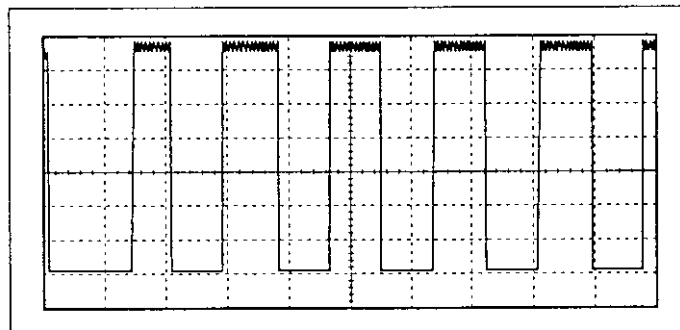

Figure 4. Code signal and start time.
- Check that the signal is as in figure 4, i.e. a square wave with 50% duty cycle, > 0,85 Vp-p, at 3 ms after start.